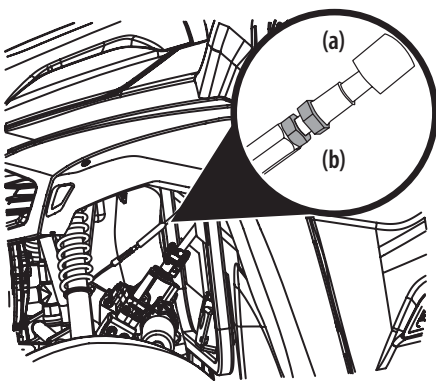

Figure 5-18
- Look inside the driver's side wheel well and locate the adjustment point. Slide back the rubber cover (a) on the adjustment nuts (b). See Figure 5-18.
- Adjust the parking brake handle nuts (b) until the free play in the handle is gone. See Figure 5-18.